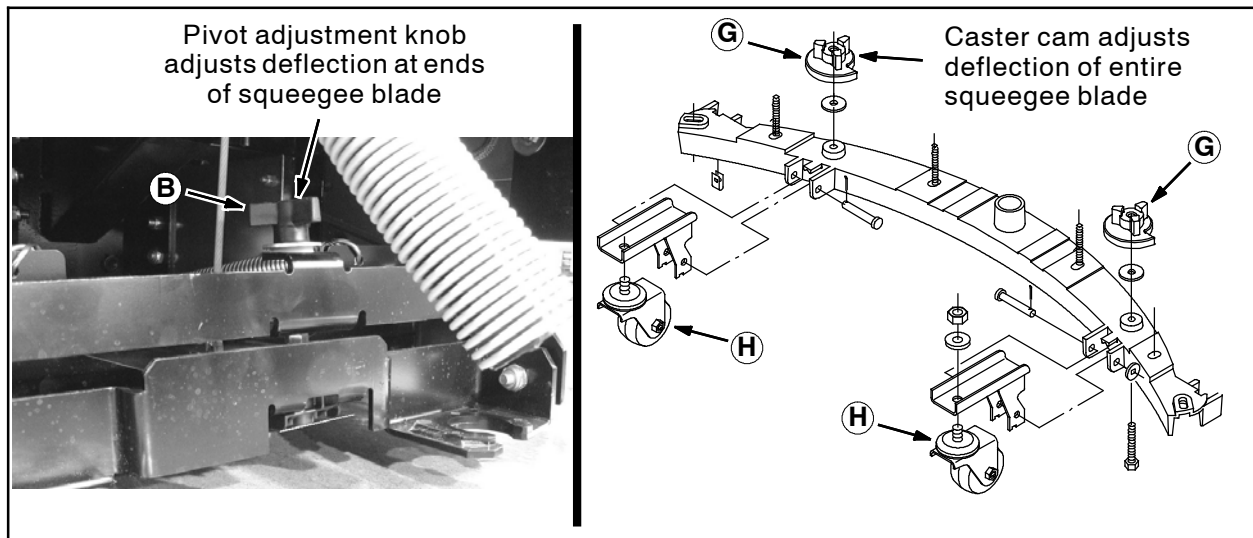
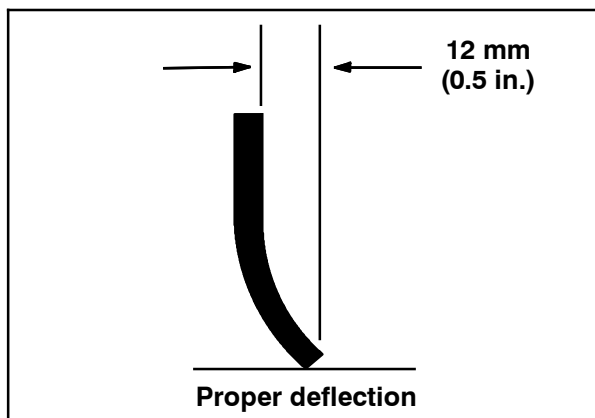

FIG. 2
FIG. 3
9. Hold the casters (H) up and adjust the two squeegee caster cams (G) so the casters (H) are approximately 0.5 in. (12 mm) from the floor. (Fig. 2)
11. Check the rear squeegee blade deflection. The deflection must be the same across the full length of the rear squeegee blade. If the blade bends more at the ends of the blade, turn the squeegee pivot adjustment knob (B) clockwise 1/4 turn at a time. If the blade bends more at the middle of the blade, turn the knob (B) counterclockwise 1/4 turn at a time. (Fig. 2 / Fig. 3)
13. Check the deflection across the entire length of the squeegee. Turn the two squeegee caster cams (G) clockwise to decrease the blade deflection and counterclockwise to increase the blade deflection. Be sure the cams (G) are tight against squeegee mount bracket when the rear squeegee is in the down position. (Fig. 2 / Fig. 3)